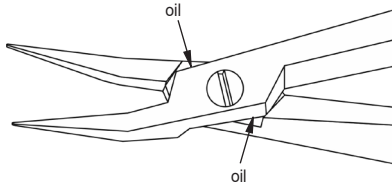

Fig. 4
- Apply the instrument oil selectively on the area that needs it (see fig. 4).